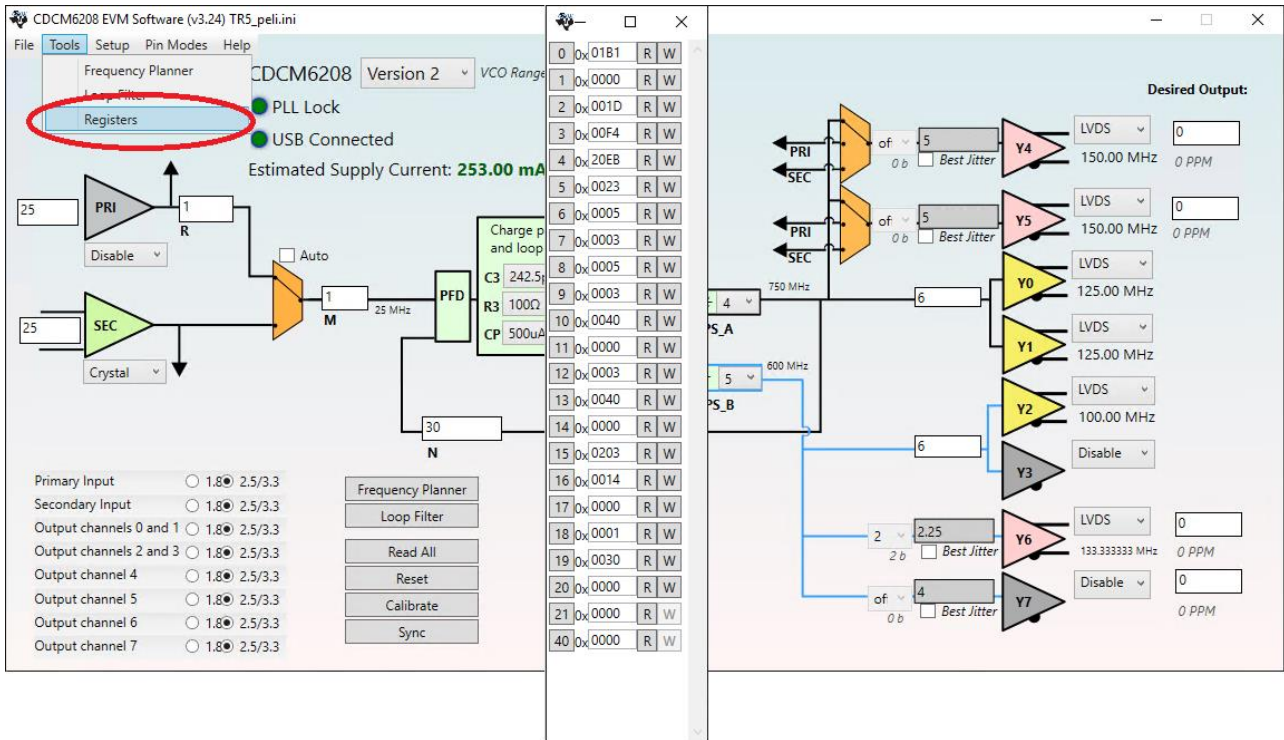

Figure 5-6 Open Register Table on CDCM6208 EVM Software
3. After the setting is completed, CDCM6208 EVM Software generates a register table, which contains users setting frequency corresponding register value (See Figure 5-6).